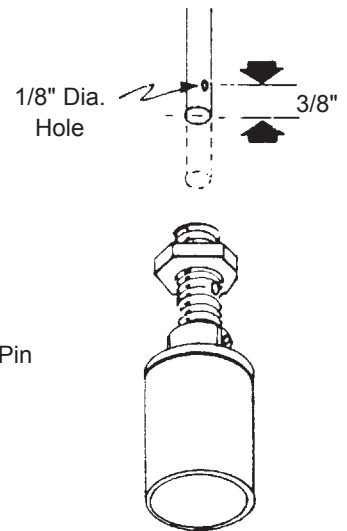

FIG. 3
5. Cut stem to desired length and drill 1/8" diameter hole through stem 3/8" from end of stem to center of hole. (Fig. 3)